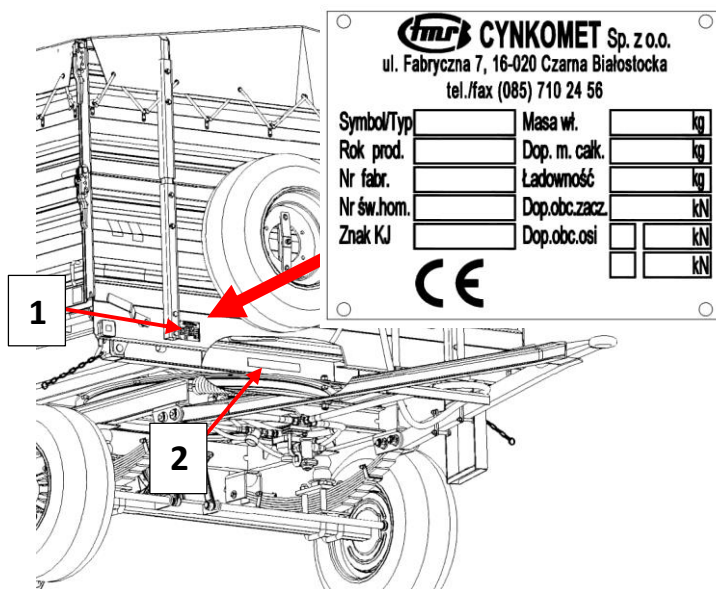

Figure 1. Location of the nameplate and issue of the serial number
The trailer is marked with the plate (1) and a serial number (2). The rating plate is found on the front beam of the upper frame, and the serial number is stamped on the front beam of the lower frame – figure 1.